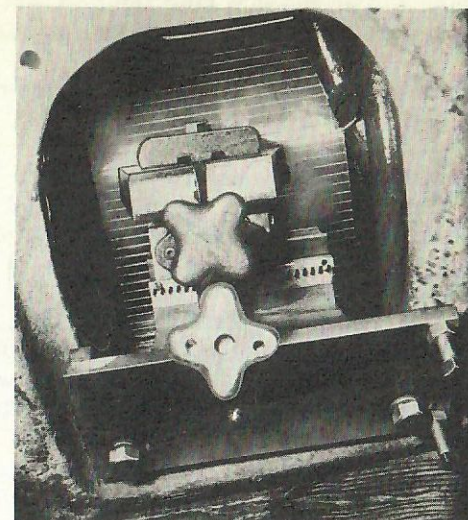
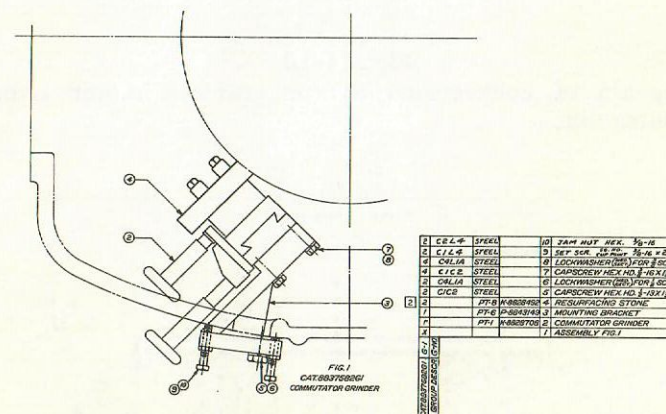

Fig. 32-10
Fig. 33-10
6. Install commutator grinder, Cat. 8837582G1, in bottom commutator opening on suspension side; this is safest place and will allow most of the grinding dust to fall out. See Fig. 32-10. Grinder assembly consists of a "Midget" grinder, mounting bracket, resurfacing stones and various cap-screws and set screws as indicated in Fig. 33-10. Install grinder as follows: